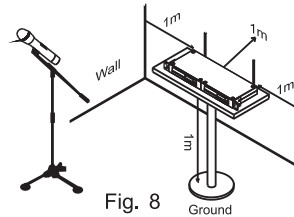

Fig. 8
4. For ideal reception range, install the receiver at least 1 meter above the ground and away from EMI / RFI “noise” sources. Besides, place the transmitter at least 1 meter away from the receiving antenna, as shown in Fig. 8.